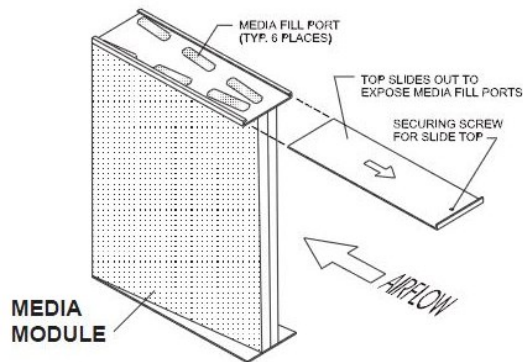

Figure 5-5-1
The Loose Fill type the odor control media is housed in steel reusable Media Modules that can be replenished with Loose Fill media (refer to Figure 5-5-1). With Loose Fill media a 30% pleated media After Filter located immediately downstream of the Media Modules is required.
5. Remove the securing screw and slide the cover plate off (Refer to Figure 5-5-1).